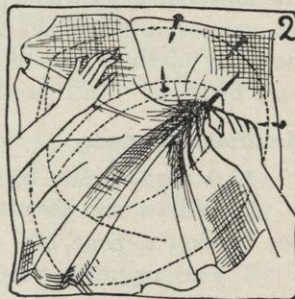

FIG. 2.
- Push the moist frame material well into the headsize (see Figure 2) in order to get material enough to *swing* when making a seam.
- Pin the moist frame material to the bottom headsize of a model frame (see Figure 2) by starting opposite the place where you want the seam to go, and putting either the straight or bias of the material at that point, according to the decision reached with your teacher (see Section 4 *a* (1)); or tack it below the headsize line in a wooden block, which must be worked from the under facing, or above the headsize line in a wooden block, which must be worked from the top facing.